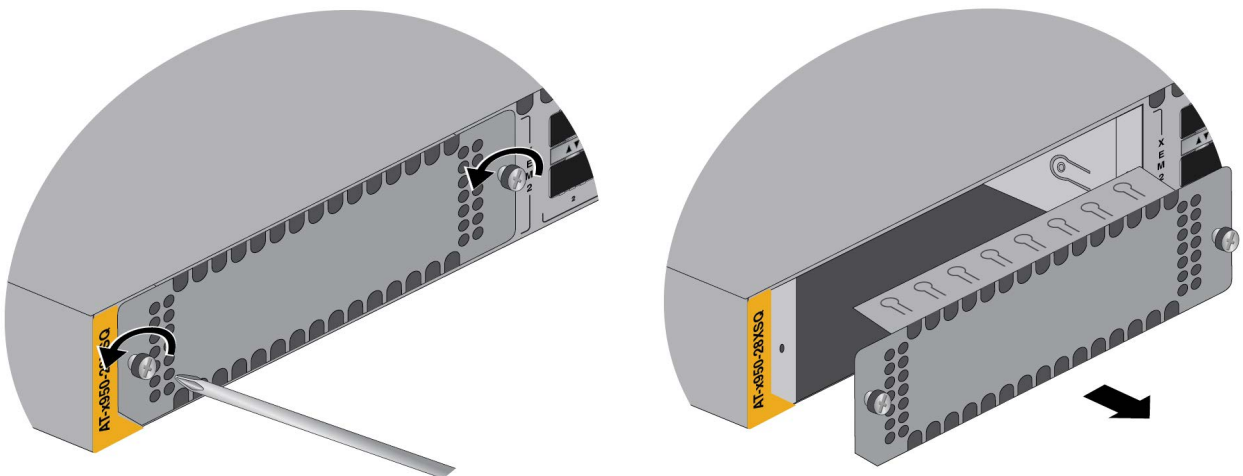

Figure 76. Removing the Blank Line Card Cover
1. Using a #2 Phillips-head screwdriver, loosen the two captive screws on the blank expansion slot panel and remove it from the switch. Refer to Figure 76.